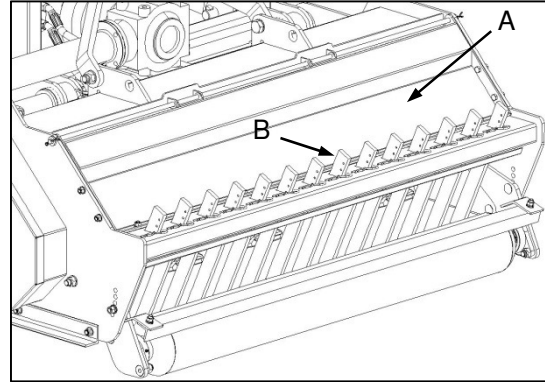

Fig. 2
### ➤ Containment mode (Fig. 2)
- ✔ Discharge chute in the closed position (Fig. 2-A), allowing heavy materials to be repeatedly processed.
- ✔ Tines should remain in position in this configuration to provide added containment of materials until sufficiently processed to pass between the tines (Fig. 2-B).
### ➤ Behoudmodus (Fig. 2)
- ✔ Afvoergeut in die geslote posisie (Fig. 2-A), wat toelaat dat swaar materiale herhaaldelik verwerk word.
- ✔ Tande moet in hierdie konfigurasie in posisie bly om ekstra behoud van materiale te verskaf totdat dit genoegsaam verwerk is om tussen die tande deur te kan beweeg (Fig. 2-B).